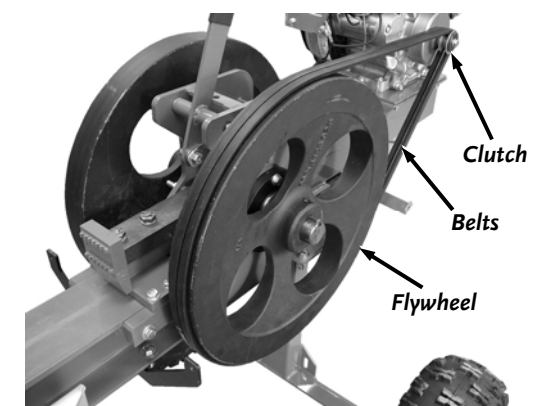

Figure 26
2. Remove the Belts by rolling them off the Flywheels as you slowly rotate the Flywheels (**Figure 26**).